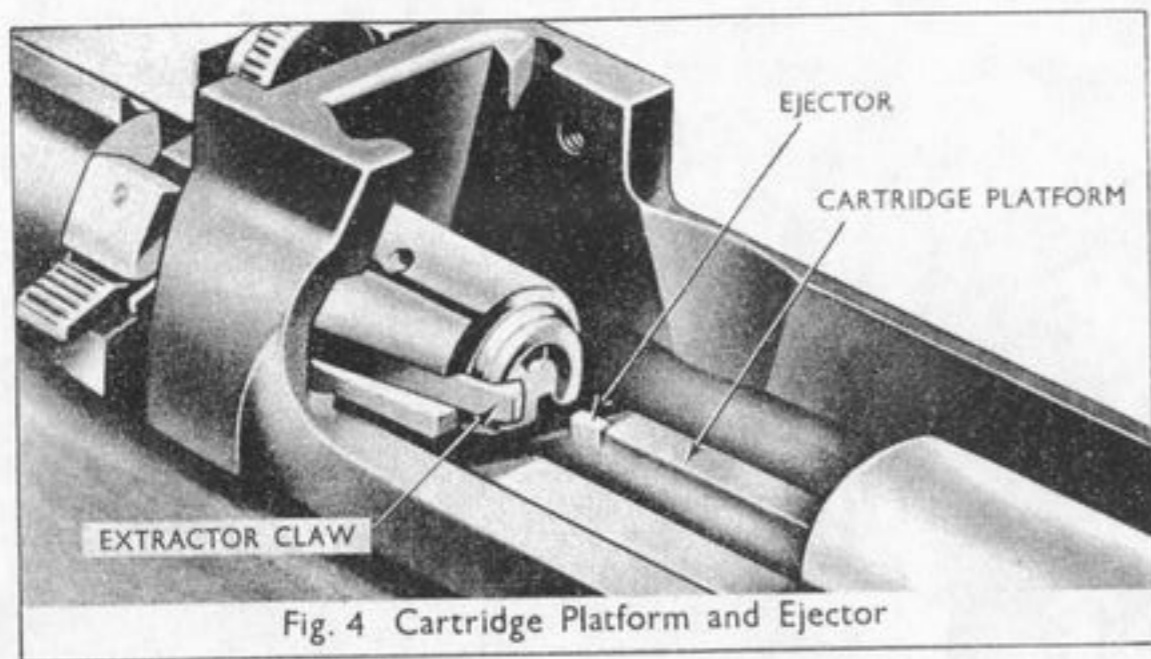

Fig. 4 Cartridge Platform and Ejector
CARTRIDGE PLATFORM AND EJECTOR (Fig.4)
34. When the bolt lever is raised and the bolt withdrawn, the empty case is removed from the chamber by the claw of the extractor (Fig.4) pulling on the rim of the case. The empty case is held between the claw of the extractor and the face of the bolt during withdrawal of the bolt until the ejector (Fig.4) strikes the rim of the case and ejects it from the rifle.